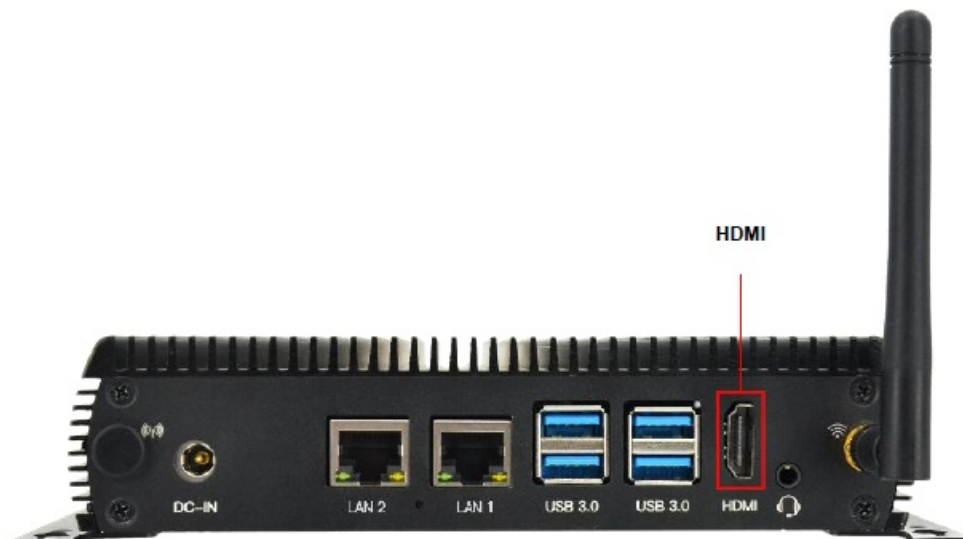

Figure 8 HDMI
- A-type HDMI female socket, which is used to connect a monitor, TV or projector. As shown in the Figure 8.